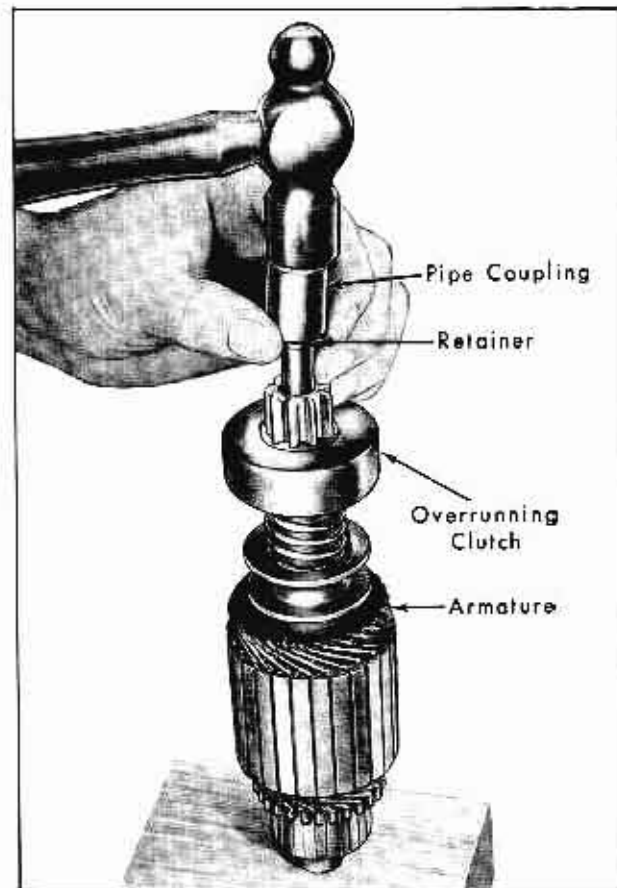

Fig. 11-32 Driving Retainer Off Snap Ring
7. Slide a standard 1/2" pipe coupling or other metal cylinder of suitable size onto shaft, so end of coupling or cylinder butts against edge of retainer, Fig. 11-32. Tap end of coupling with hammer, driving retainer towards armature and off snap ring.